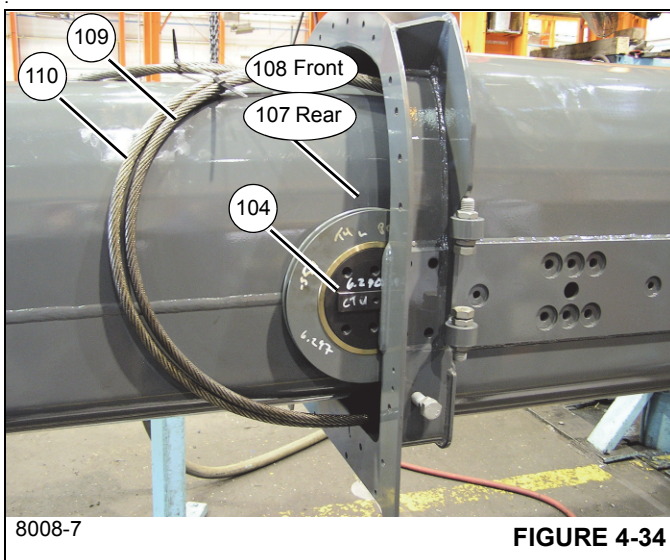
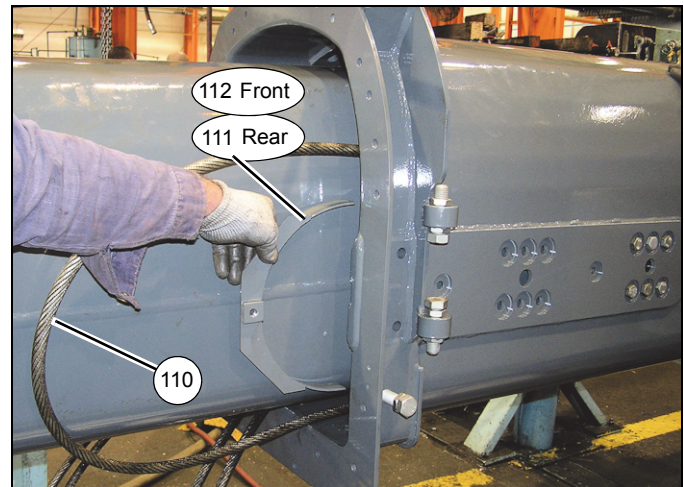
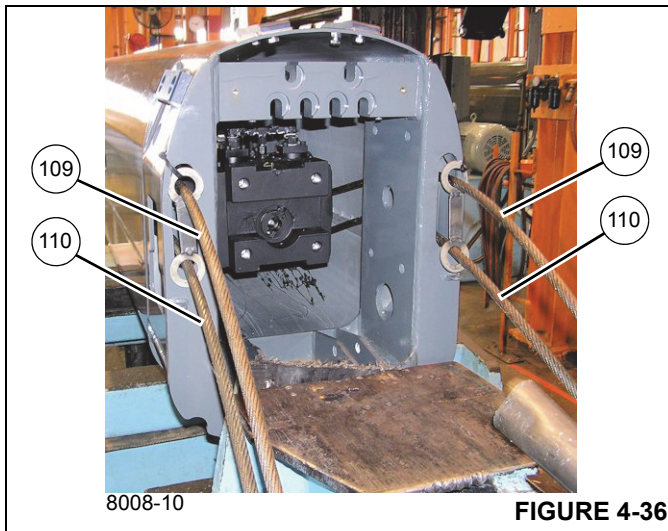

FIGURE 4-34
FIGURE 4-35
FIGURE 4-36
**NOTE:** Do not allow the wear pad (127) to hang from the grease hose, as the threads of the wear pad can be damaged. If wear pad threads are damaged, replace the wear pad; do not try to repair with thread tape.
25. Partially insert tele 4 (5) into tele 3 (4).
26. Use the shims (70) to adjust the tele 4 rear wear pad assemblies (128, 134) such that the wear pads are within 2 mm (0.08 in) of the sides and the bottom of tele 3.
27. Insert tele 4 (5) into tele 3 (4) until the loops in the tele 4 extend cables (109, 110) are close to the tip of tele 3 (4) (see Figure 4-34).
28. Using the shaft (104) and six capscrews (105), mount the rear sheave (107) to the inside of tele 3 (4) (left and
right sides) using the rear set of mounting holes (see Figure 4-34); ensure the rectangular tab on the shaft (104) slides into the groove in tele 3 (4).
29. Working at the rear of tele 3 (4), pull the tele 4 extend cables (109) until they seat into the sheaves (107).
30. Install the rear guard weldment (111) (left and right sides) over the tele 4 extend cable (109), where the cable wraps around the sheave (107), and secure with the capscrew (113) (see Figure 4-35).
31. Using the shaft (104) and six capscrews (105), mount the front sheave (108) to the inside of tele 3 (4) (left and right sides) (see Figure 4-34); ensure the rectangular tab on the shaft (104) slides into the groove in tele 3 (4).
32. Working at the rear of tele 3 (4), pull the tele 4 forward extend cables (110) until they seat into the front sheaves (108).
33. Install the front guard weldment (112) (left and right sides) over the tele 4 extend cable (110), where the cable wraps around the sheave (108), and secure with the capscrew (113).
34. Install the grease fitting (106) into each of the four shafts (104). Add grease until the grease extrudes through the sheaves.
35. Route the tele 4 extend cables (109, 110) through the slotted holes in the rear of tele 3 (4), ensuring the 109 cables and 110 cables are oriented as shown in Figure 4-36.